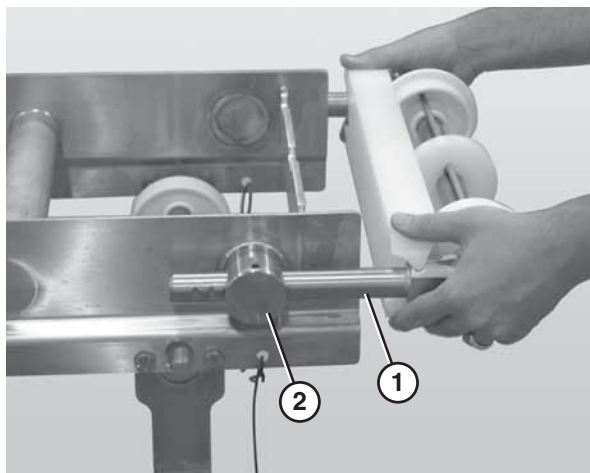

Figure 10
1. Slide the bearing shafts (Figure 10, item 1) into the take up blocks (Figure 10, item 2).